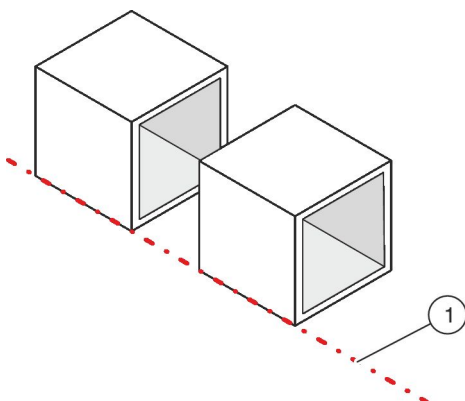

Fig. 14: Aligning AHU casing units
3. ▶ Align the AHU casing units such that they are flush with one another ( Fig. 14 /1).